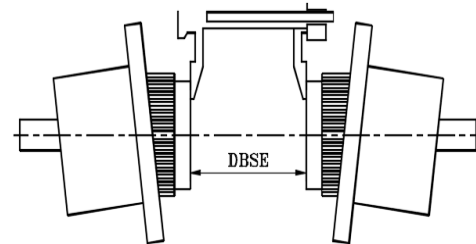

Fig. 5 HUB mounting for spacer coupling
- For spacer type, set the equipment at a distance equal to DBSE by using vernier calliper as shown in fig. 5